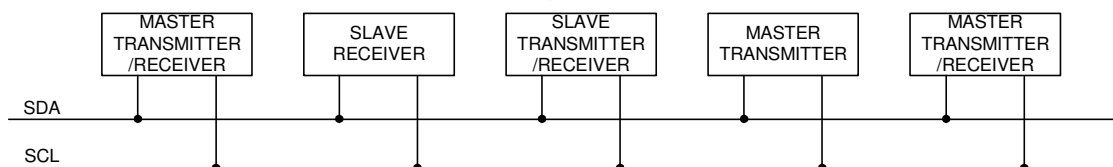
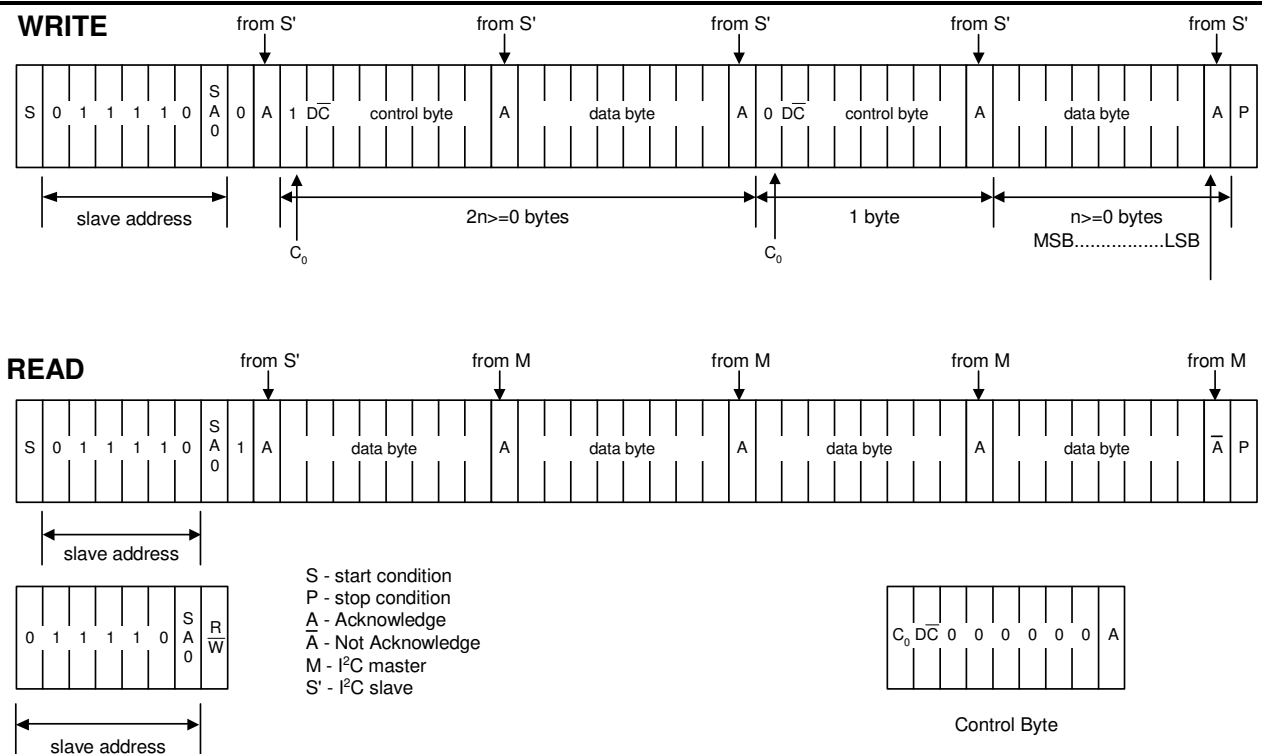

Figure 7 System configuration
Figure 9 I²C Protocol
The SH1107 supports both read and write access. The $\overline{R/\overline{W}}$ bit is part of the slave address. Before any data is transmitted on the I²C-bus, the device that should respond is addressed first. Two 7-bit slave addresses (0111100 and 0111101) are reserved for the SH1107. The least significant bit of the slave address is set by connecting the input SA0 to either logic 0(VSS) or 1 (VDD). The I²C-bus protocol is illustrated in Fig.7. The sequence is initiated with a START condition (S) from the I²C-bus master that is followed by the slave address. All slaves with the corresponding address acknowledge in parallel, all the others will ignore the I²C-bus transfer. After acknowledgement, one or more command words follow which define the status of the addressed slaves. A command word consists of a control byte, which defines Co and $\overline{D/\overline{C}}$ (note1), plus a data byte (see Fig.9). The last control byte is tagged with a cleared most significant bit, the continuation bit Co. After a control byte with a cleared Co-bit, only data bytes will follow. The state of the $\overline{D/\overline{C}}$ -bit defines whether the data-byte is interpreted as a command or as RAM-data. The control and data bytes are also acknowledged by all addressed slaves on the bus. After the last control byte, depending on the $\overline{D/\overline{C}}$ bit setting, either a series of display data bytes or command data bytes may follow. If the $\overline{D/\overline{C}}$ bit was set to '1', these display bytes are stored in the display RAM at the address specified by the data pointer. The data pointer is automatically updated and the data is directed to the intended SH1107 device. If the $\overline{D/\overline{C}}$ bit of the last control byte was set to '0', these command bytes will be decoded and the setting of the device will be changed according to the received commands. The acknowledgement after each byte is made only by the addressed slave. At the end of the transmission the I²C-bus master issues a stop condition (P). If the $\overline{R/\overline{W}}$ bit is set to one in the slave-address, the chip will output data immediately after the slave-address according to the $\overline{D/\overline{C}}$ bit, which was sent during the last write access. If no acknowledge is generated by the master after a byte, the driver stops transferring data to the master.